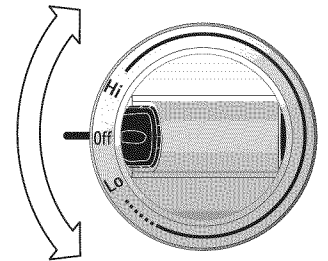

Figure 3
2. Push in and turn the surface control knob in either direction to the desired setting (Figure 3).